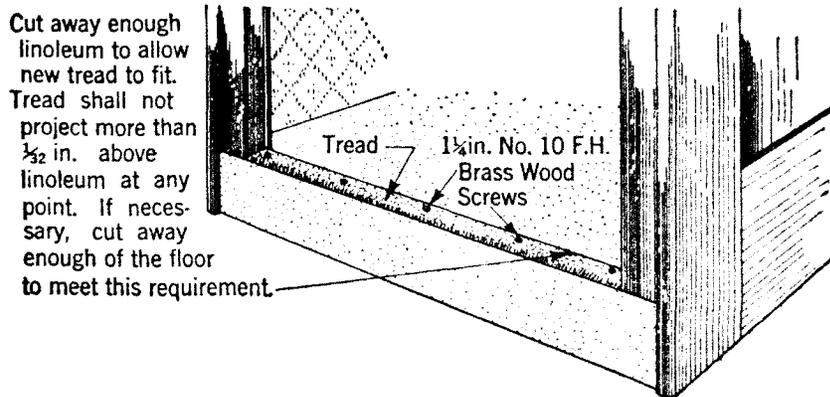

Fig. 9
- 2.08 Mercury switch leads in the 215A switch or in the 3-type light fixture shall be located one on each side of the tube outside of the spring clip fingers and inside the upright yoke members. The leads shall be taped together with a narrow strip of friction tape near the end of the tube as they leave the switch, as shown in Fig. 9, Section C44.111.